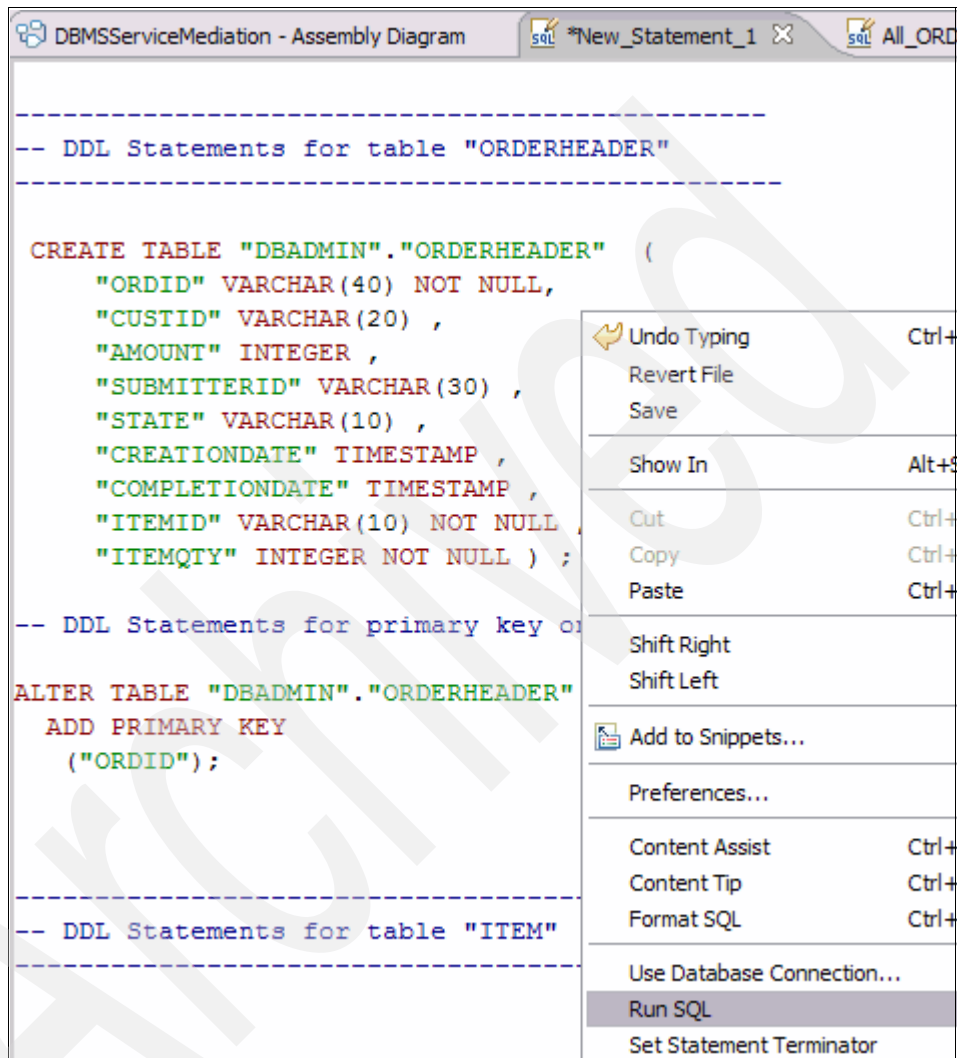

Figure A-4 Enter the SQL statements and select Run SQL
2. After you have entered the statements, right-click anywhere in SQL editor panel and select **Run SQL** from the pop-up menu as shown in Figure A-4.